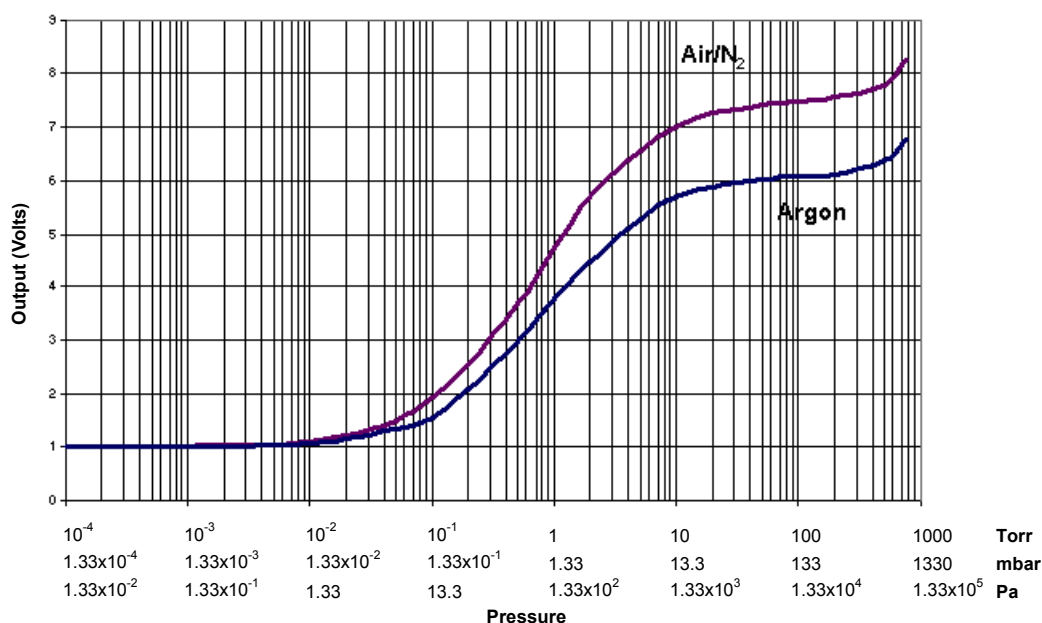

Figure 7 Air/N₂ and Argon Calibration Curves
The CT-100 pressure vs. voltage calibration curves for air and argon are given in Figure 7. The data on which to base a calibration are given in Table 4 on page 10. The calibration procedure for any gas *without a reference gauge* is based on establishing a datum at either:
2. Refer to the chart in Figure 7 on page 9 or to Table 4 on page 10 and determine the output voltage corresponding to that pressure.
4. Refer to the Table 4 on page 10 or to Figure 7 on page 9 for the gas you wish to measure.